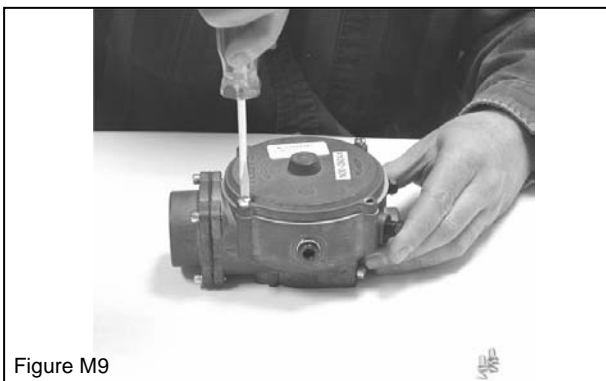

Figure M9
6. Tighten the cover fasteners and reinstall the mixer on the engine (Figure M9).